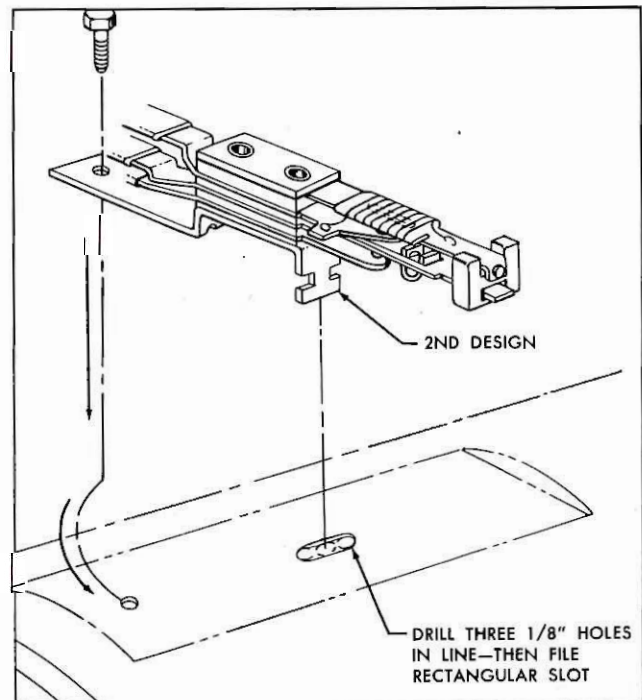

Fig. 6—Purge Switch Installation
Early production gasoline heater purge switches were attached to the heater case with one or two screws. Later model and service replacement purge switches are attached with one screw and a key type locking tang (fig. 6).
4. Using a 1/8 inch drill with a sleeve to prevent the drill from entering the case more than 1/4 inch, drill a hole at the point indicated in Step 3 and drill two additional 1/8 inch holes at each side of the original hole (fig. 6).